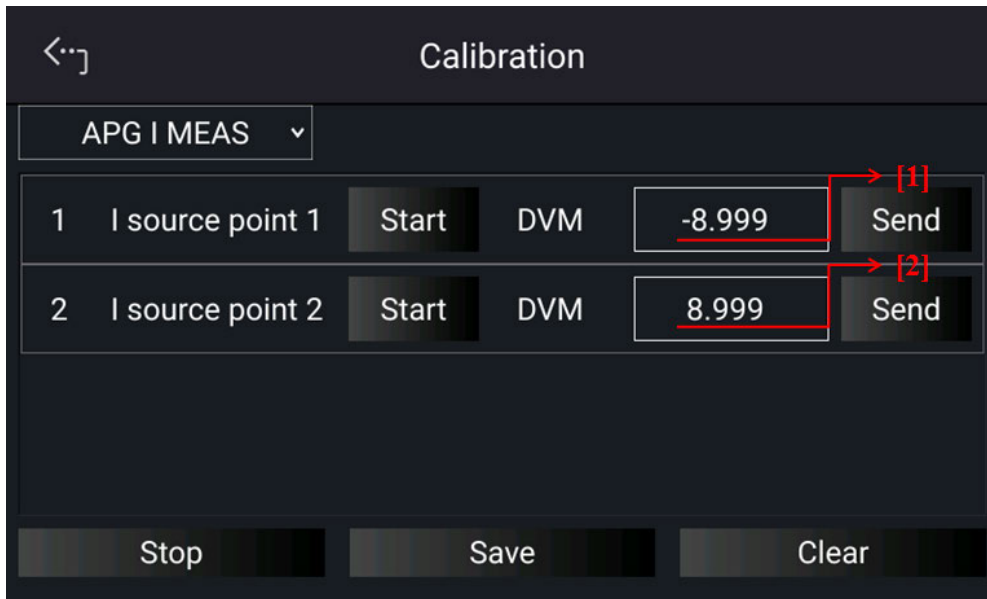

Figure 3-98
4. When the APG current calibrations are done, tap “STOP” to exit the calibration procedure. To save the calibration data, tap “SAVE”, and tap “CLEAR” to delete the calibration parameters if there is no need to save them as Figure 3-98 shows.